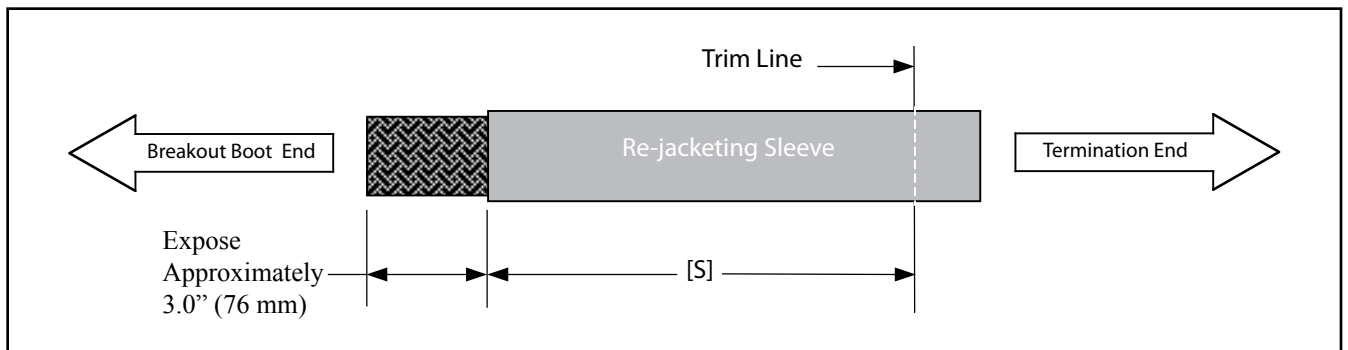

Figure 15
4.4 Using scissors, trim re-jacketing sleeve assembly to length required (Figure 15). Cut tubing and inner braid together.